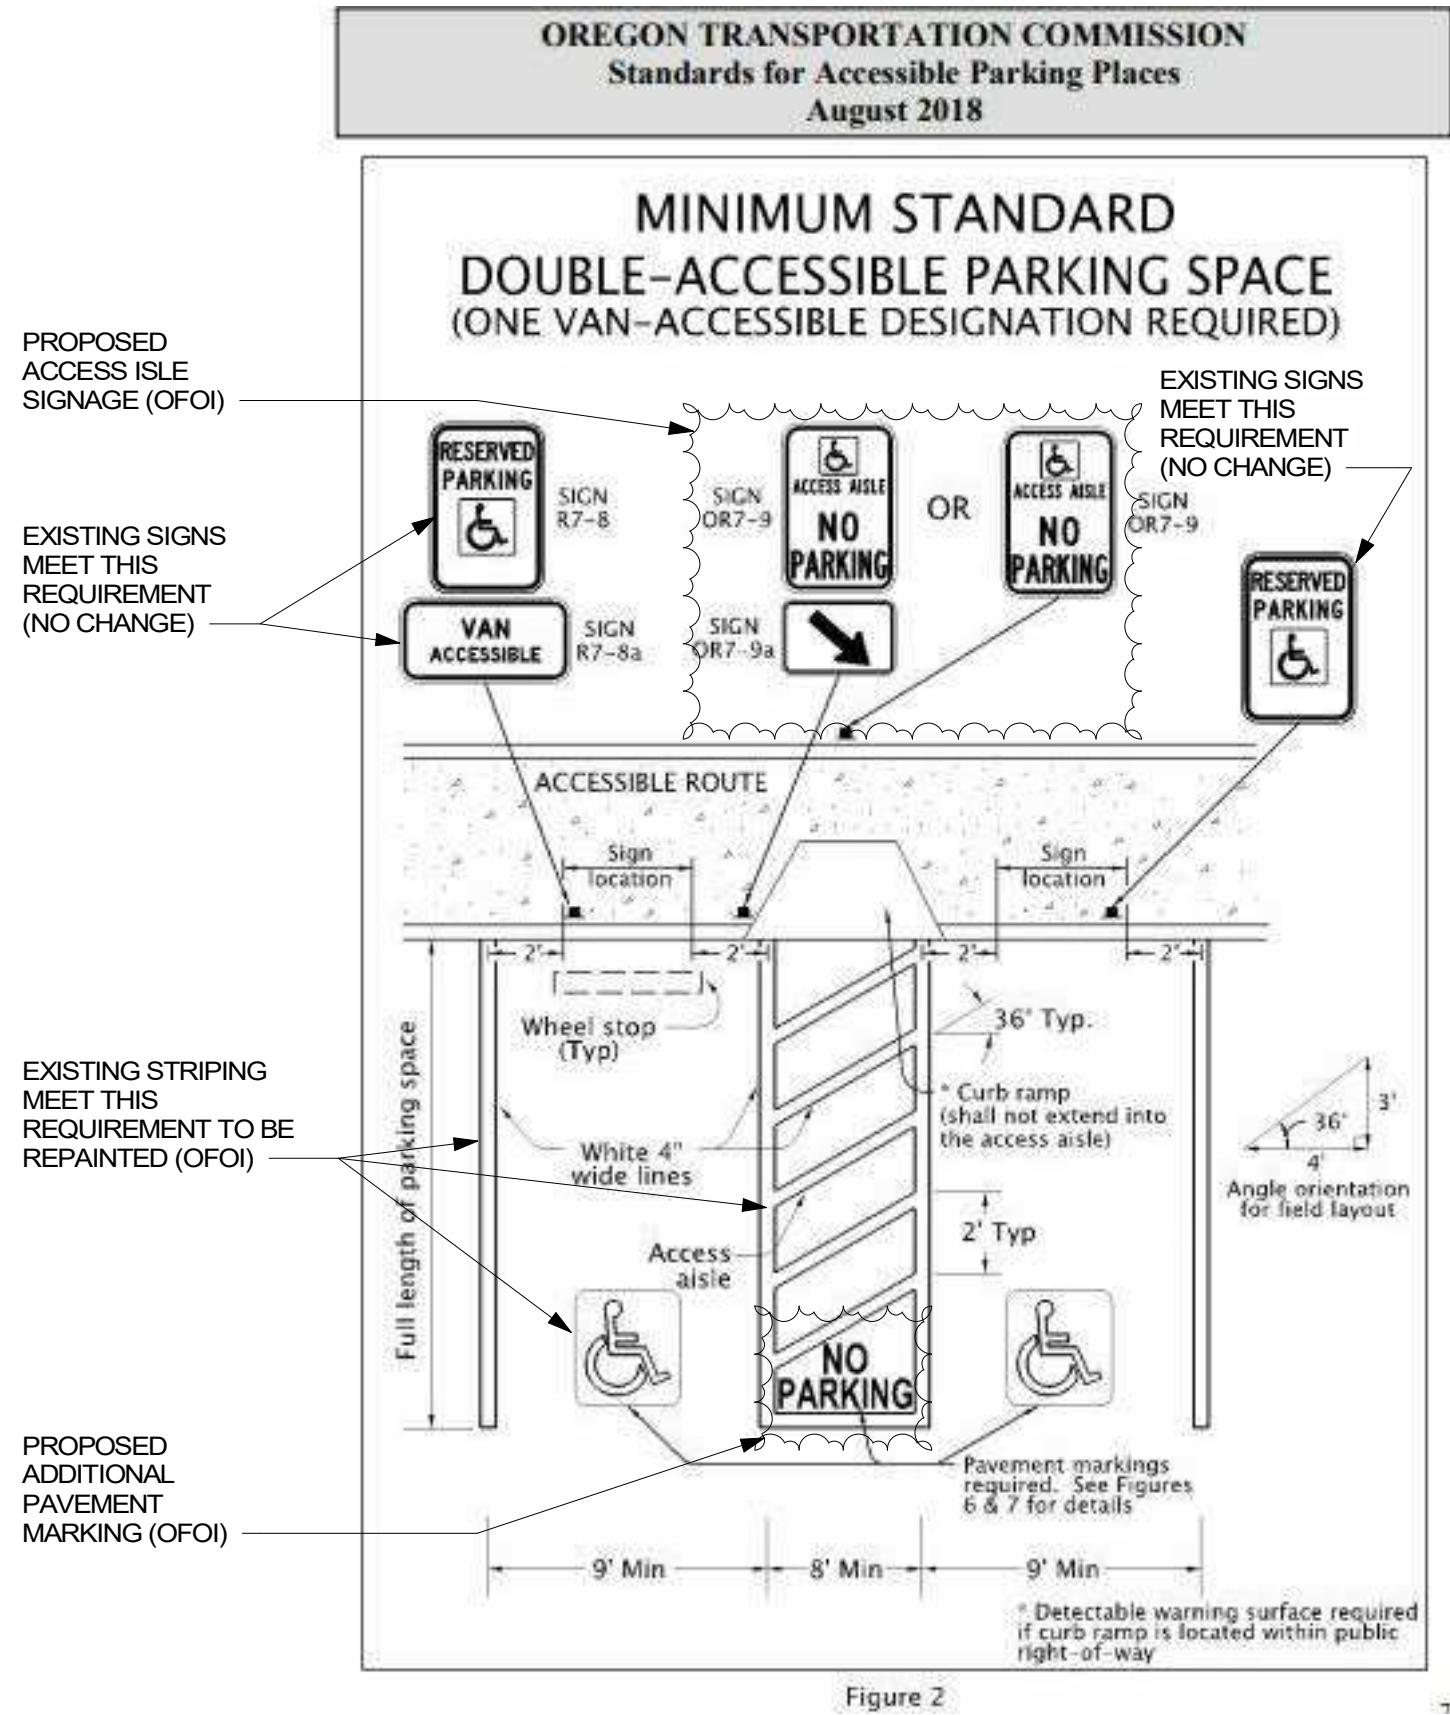

Figure 2
- PARKING STRIPING AND "NO PARKING" SIGN TO MEET ODOT STANDARDS IN (2) PLACES PER NOTED FIGURE 2